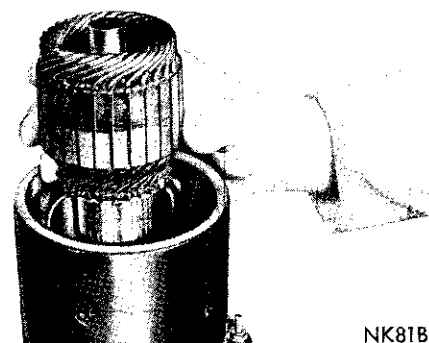

Fig. 22—Installing Starter Armature
(19) Position field frame to the exact position on gear housing and enter armature into field frame and starter gear housing (Fig. 22); carefully engaging splines of shaft with reduction gear by rotating armature slightly to engage the splines.